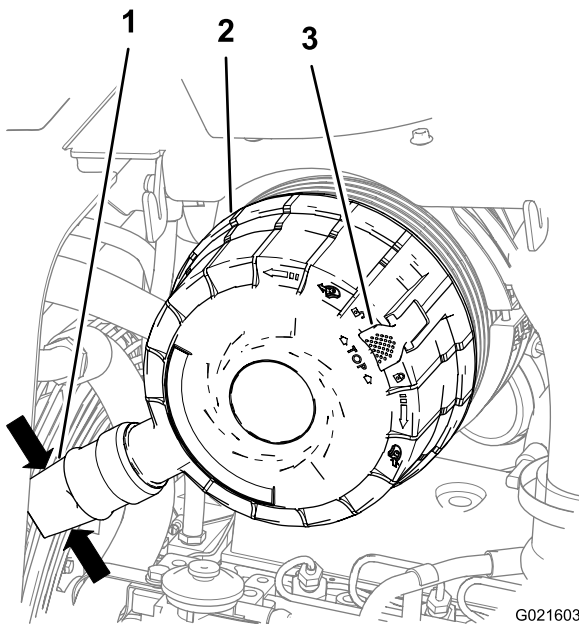

Figure 46
Squeeze the sides of the dust valve to release any collected water, dust, or dirt from the valve (Figure 46).
2. Pull the latch for the air-cleaner cover outward (Figure 46).
3. Rotate the air-cleaner cover clockwise so that the dust cap is at the 8 o'clock position (Figure 46).
4. Push the latch for the air-cleaner cover inward until the cover is fully seated (Figure 46).